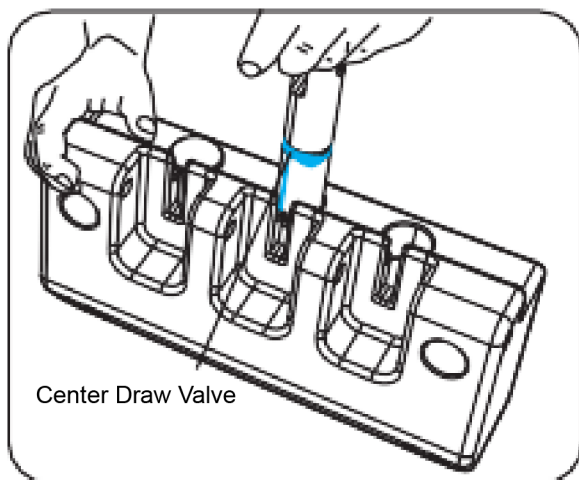

Figure 5-4
- ✘ When reassembling, the Center draw valve should be placed as shown in Figure 5-4.